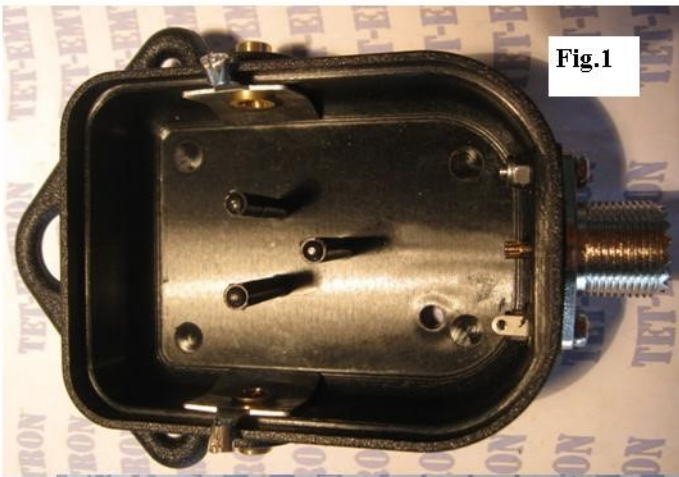

Fig.1
2. Bolt the connector on using the 2 x M3 bolts, M3 Nyloc nuts and the solder tag. Make sure you put the solder tag on the left, as in the photo(Fig.1). I pre-bend the solder tag a bit to make it easier for the pliers to hold. It needs to end up at the top of the nut to make soldering easier. Another helpful hint is mount the connector so the open side of the pin you solder to is at the top.